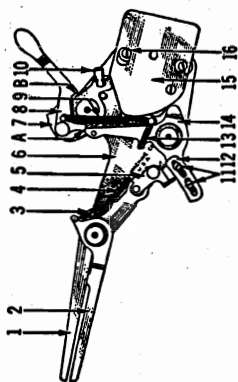

Figure 7
1. **Switch Fails to Trip.** Bend the lug B (Figure 7) so that there will be less contact at point A.
2. **Switch Trips Before the Completion of a Record.** Bend the lug back, so that there will be more contact at point A. (Figure 7.)
- b. Increase the tension of the spring 9 (Figure 7) by cutting off one or more of the coils and then replacing the end of the spring over the lug.